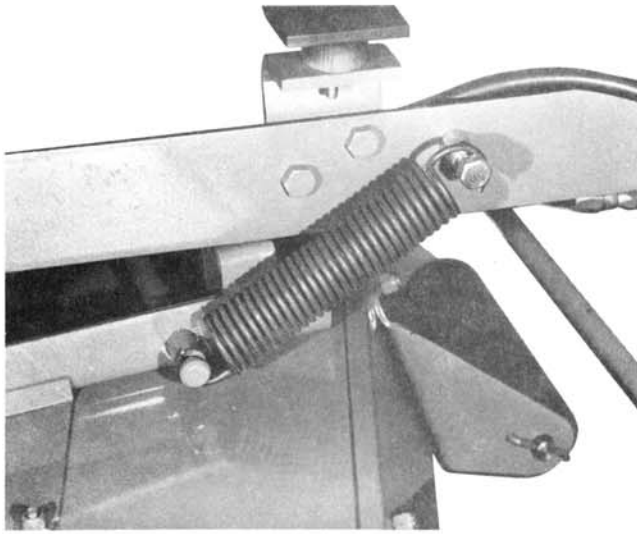

fig 14
16. Install latch pin (item 77) and secure with nut (item 111). See fig 14.
4. Attach springs (item 59) to the mower and latch pins on each side of mower/tractor. See fig 14.